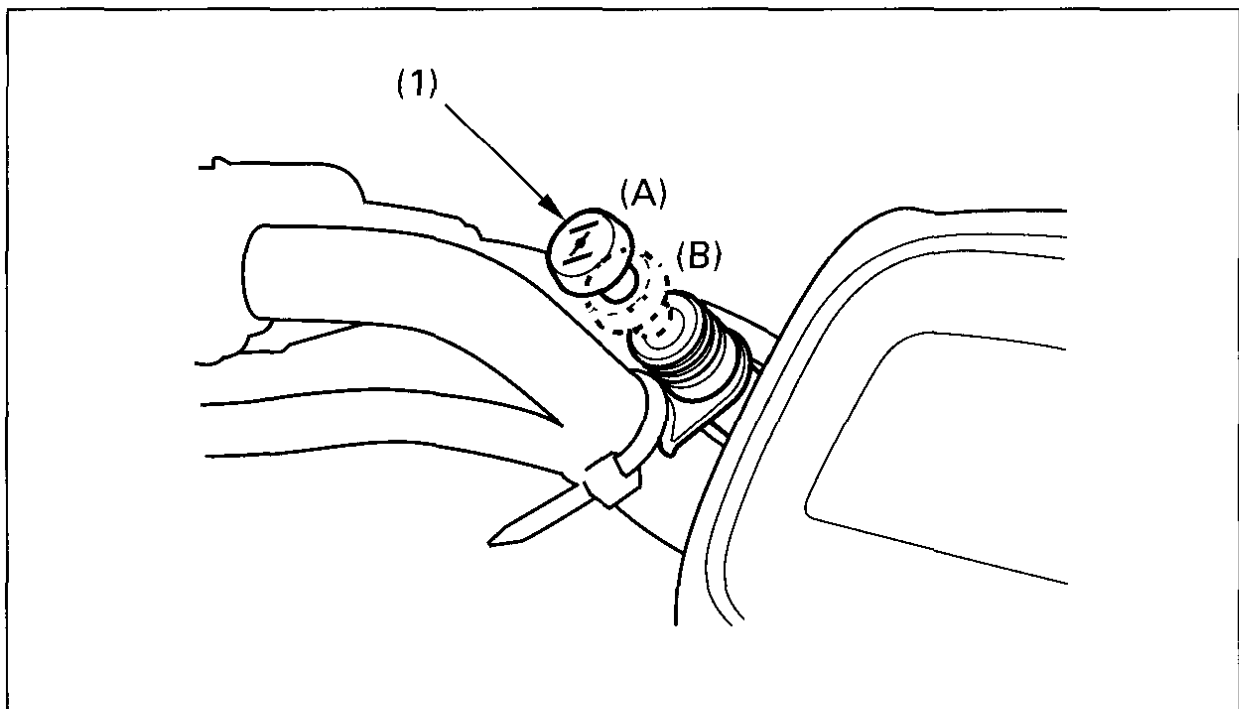

Fig. 2-7
The choke knob (Fig. 2-7) is located on the left side of the handlebar. The choke has two positions: fully ON (A), and fully OFF (B).